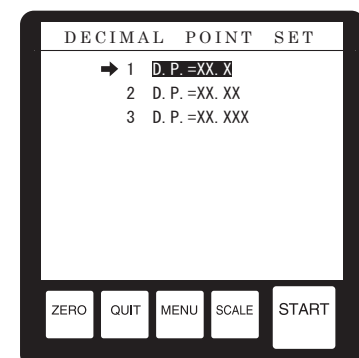

Fig.9-3
c) Press the down ↓ or up ↑ key to select the desired decimal place option. Press the enter ↵ key (Fig.9-3).